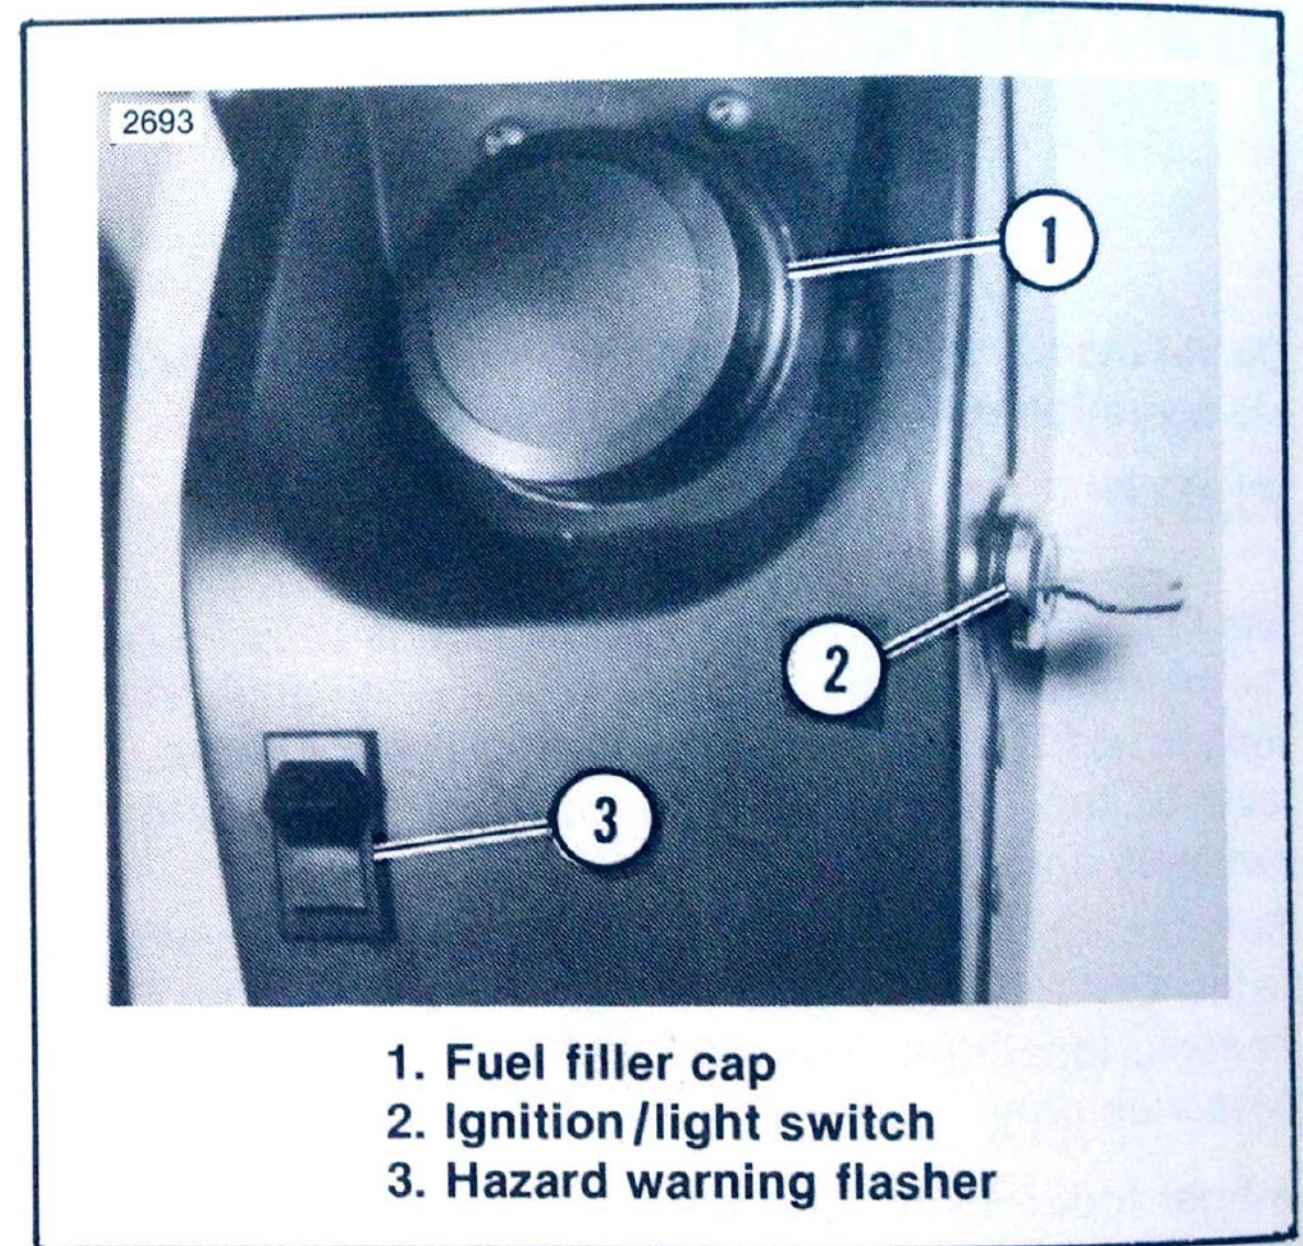

Figure 8. Ignition/Light Switch and Fuel Filler Cap — FXRP
See Figure 8. The ignition/light switch (2) is located on the right side of the fuel tank console. From OFF vertical position, there are two positions forward for ignition and lights. All devices are operational in both positions. For U.S.A. operation, both positions operate ignition and lights, with standard wiring, as required by law. Key can be removed to lock switch in OFF position.